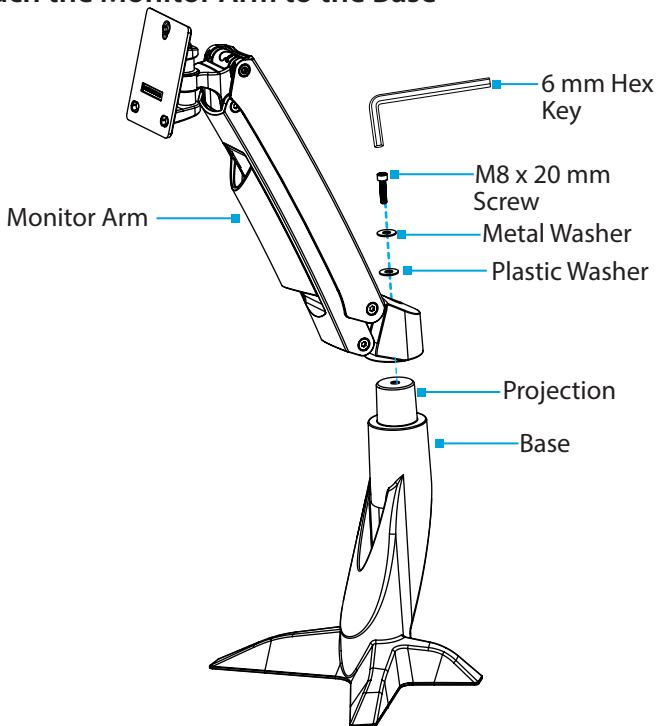

Figure 10a
4. Insert the **M8 x 20 mm Screw** through the **Washers** and into the **Joint**, located in the **Monitor Arm**, and tighten, using the **6 mm Hex Key**. (Figure 10a)